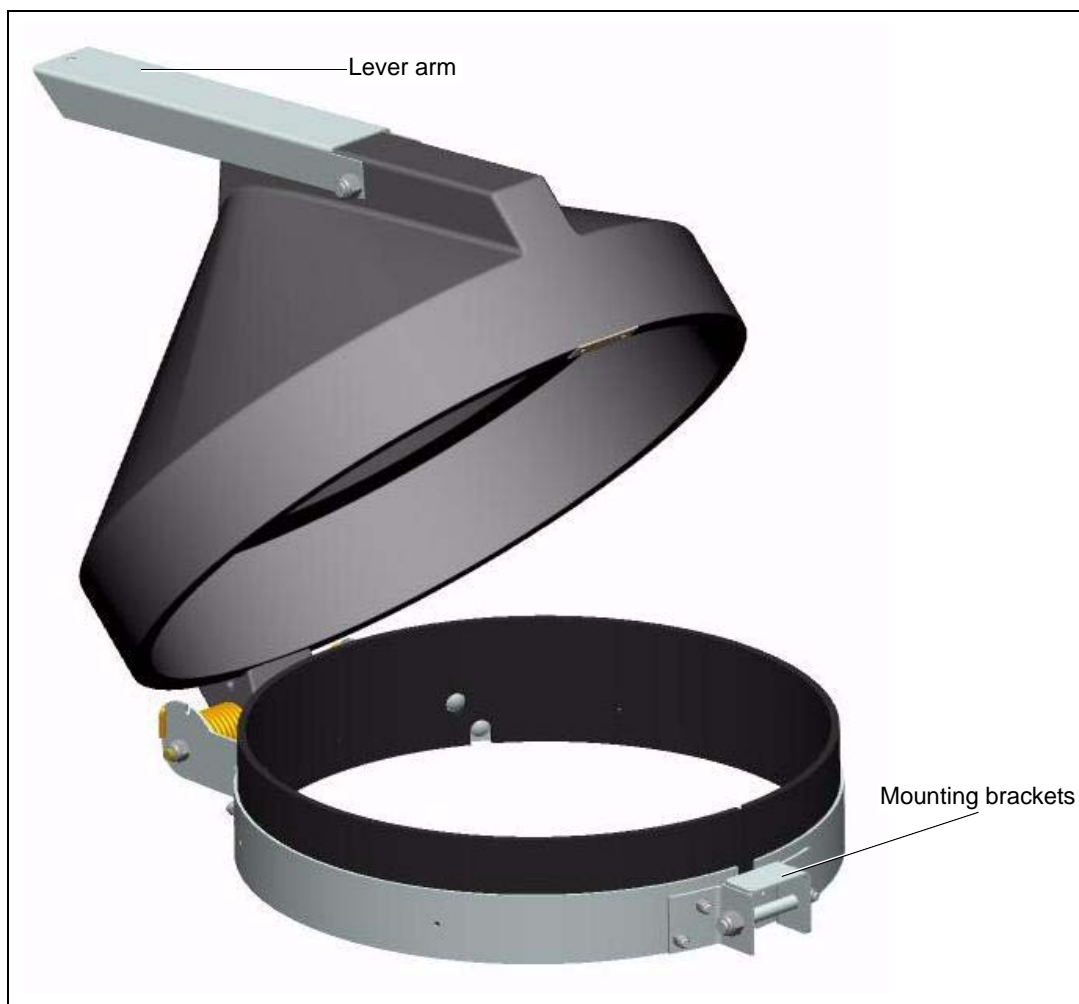
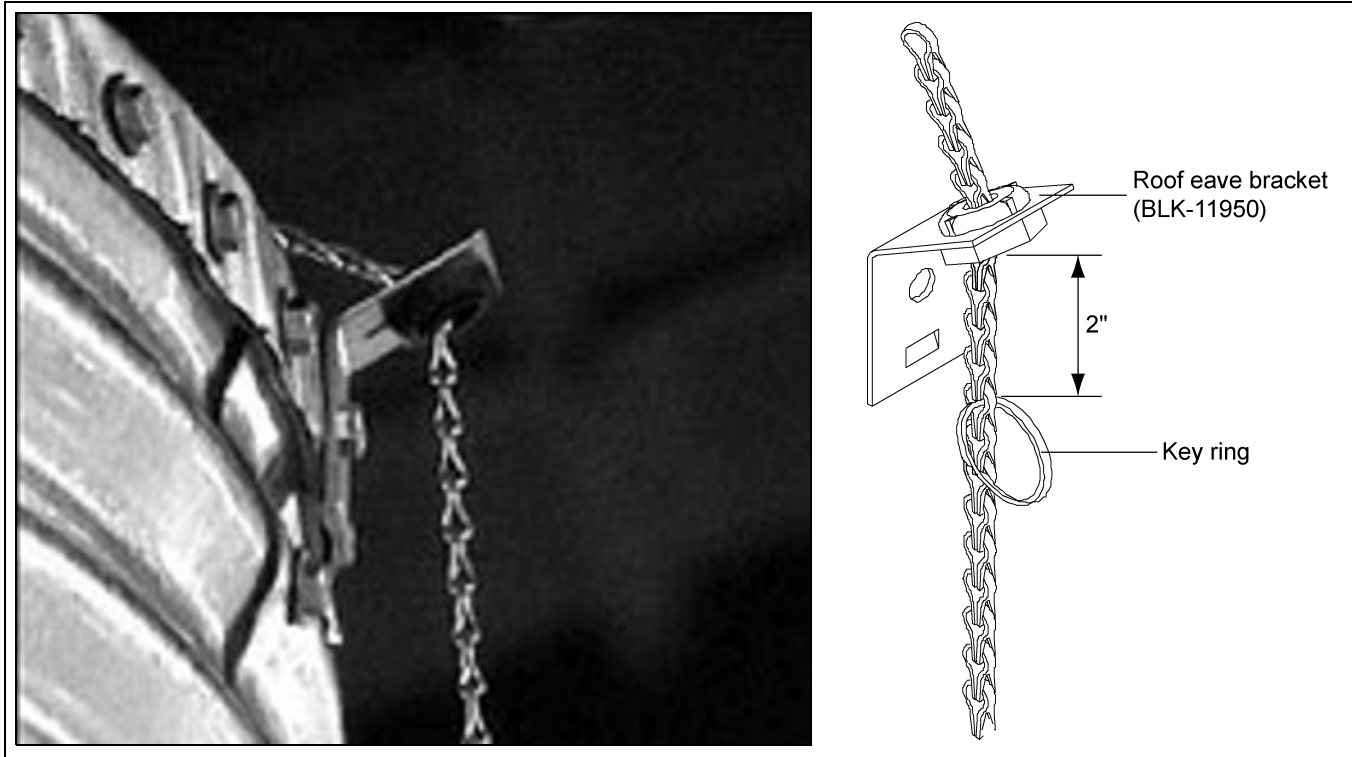
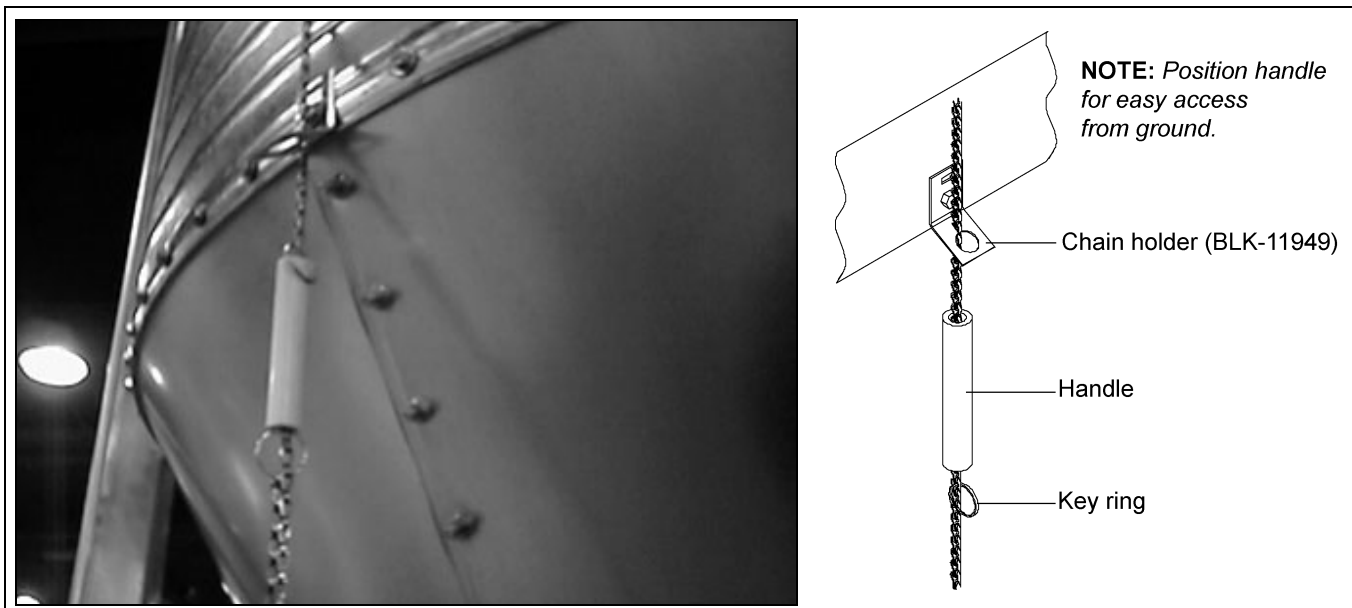

**Figure 10B** Install Lever Arm and Chain
Figure 10F
Figure 10G
3. Thread the existing chain through the hole on the end of the lever arm and fasten it to the provided key ring. (See Figure 10B on Page 49.) Ensure that the ground control chain is freely looped through the roof eave bracket and chain holder. After removing the slack in the chain while the lid is fully closed and in latched position, re-position the key ring 2" below the roof eave bracket. (See Figure 10F.) Re-adjust the existing handle and key ring so the handle is positioned for easy access from ground. (See Figure 10G.) Check to make sure that the key rings allow the cap to fully close, but will not allow the chain enough slack on top of the cap to become wrapped around the lever arm in a high wind condition.